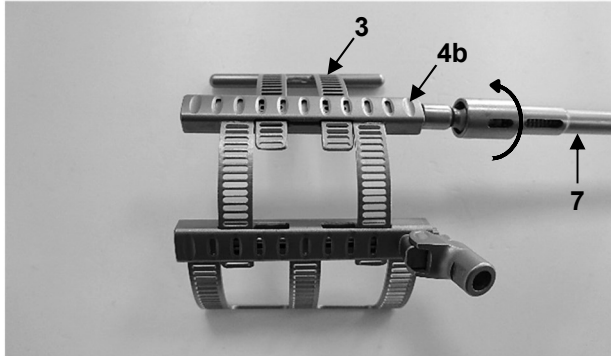
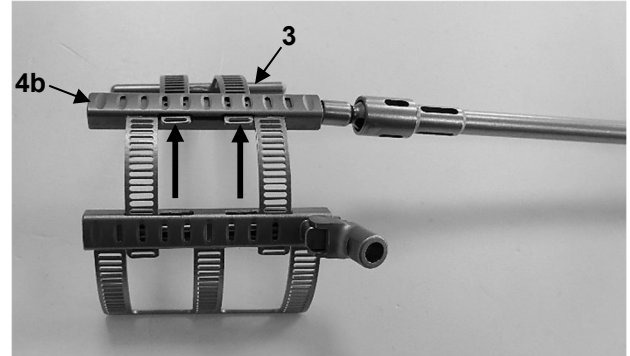

Fig. 4a
Fig. 4b
If the spreading width is not sufficient, the secondary element (3) can still be extended (Fig. 4a) to the point at which the last oblong hole at the end of the respective rib blade is still fully visible (Fig. 4b).
Figure 4b also illustrates the maximum possible spreading width of the atrial blade.